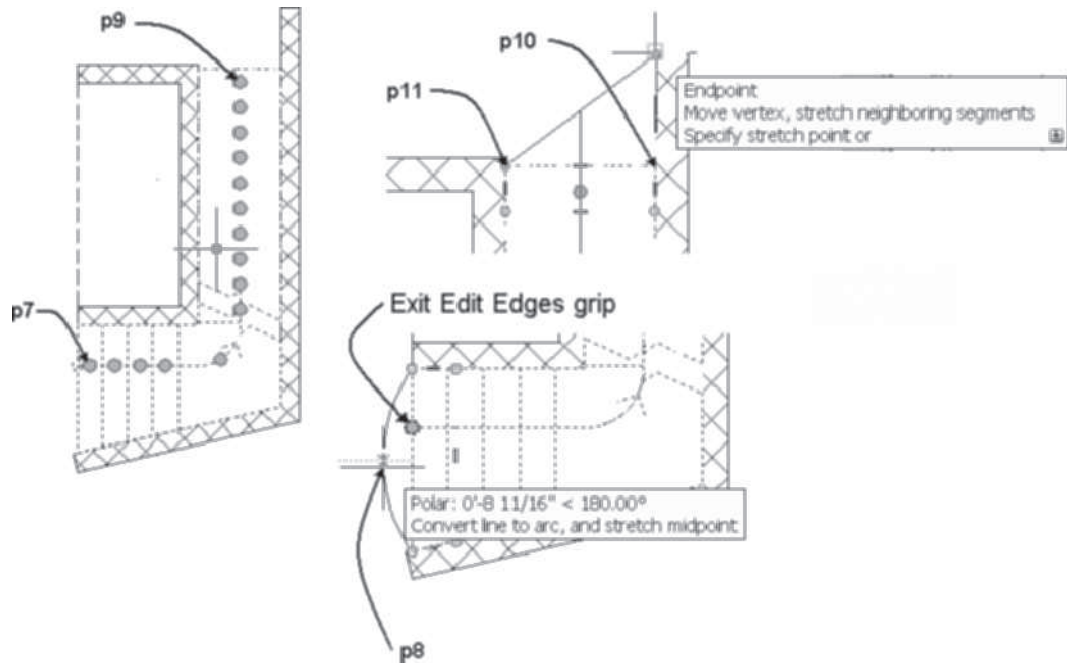

FIGURE 9.29 Grip edit of tread
7. Retain selection of the stair and choose Edit Tread/Riser from the Custom Stair panel of the Stair contextual tab. A grip is displayed on each tread as shown in Figure 9.29. Select the grip at **p7** to display edge and vertex grips as shown at the right in Figure 9.29.
8. Choose the edge grip at **p8** as shown in Figure 9.29. Press the CTRL key as necessary to display the Convert to Arc tip. Move the cursor left and type 4 [100] ENTER in the keyboard. Select the Exit Edit Edges grip. Press **ESC** to end the edit.
9. Select the stair and choose Edit Tread/Riser from the Custom Stair panel in the Stair contextual tab. A grip is displayed on each tread as shown in Figure 9.29. Select the grip at **p9** to display edge and vertex grips. Select the vertex grip at **p10** and drag the grip to the end of the wall as shown in Figure 9.29. [**Metric** only: select the vertex grip at p11, as shown in Figure 9.29, and drag the grip to the end of the wall at the corner.] Press ESC to end the stair edit.